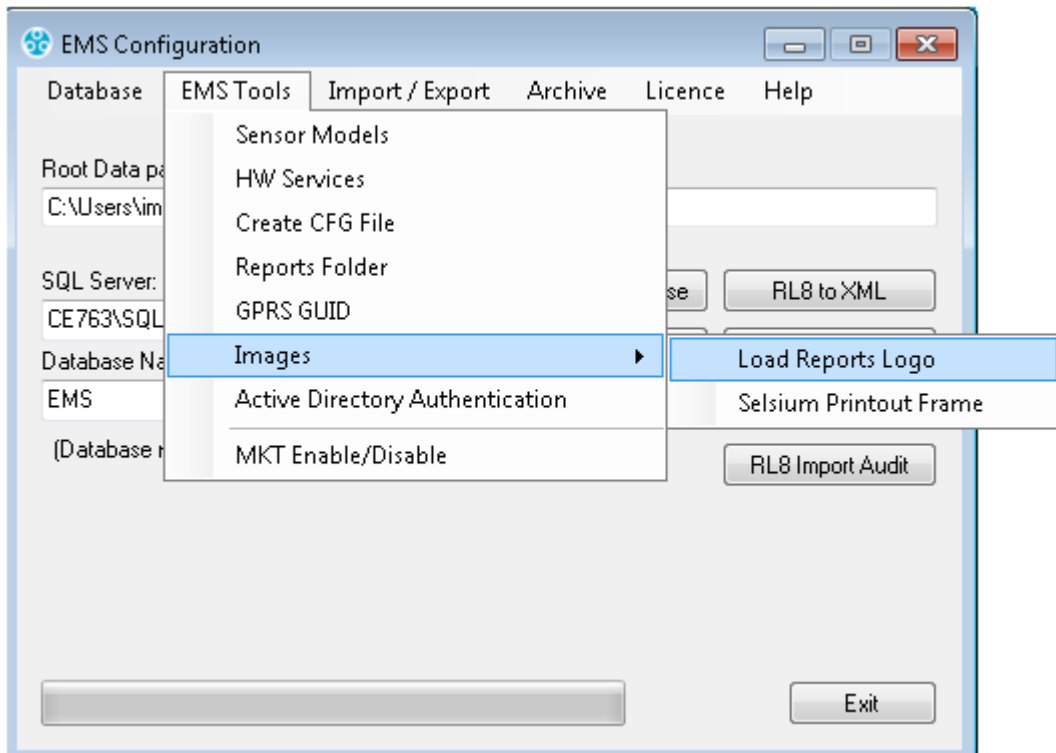

Figure 185
5. Select **Load Reports** from the displayed menu. See Figure 185: